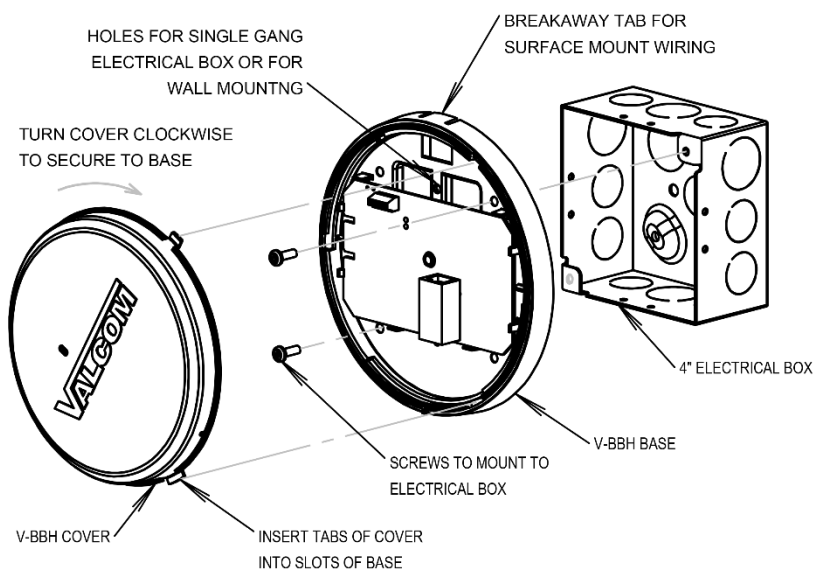

Figure 1
**Wall or other Hard Surface Mount:** The base has screw holes at the top and bottom near the edge of the circuit board. The center two holes are spaced to mount on a single-gang electrical box. The outer four holes are spaced to mount on a 4" square electrical box. See Figure 1.